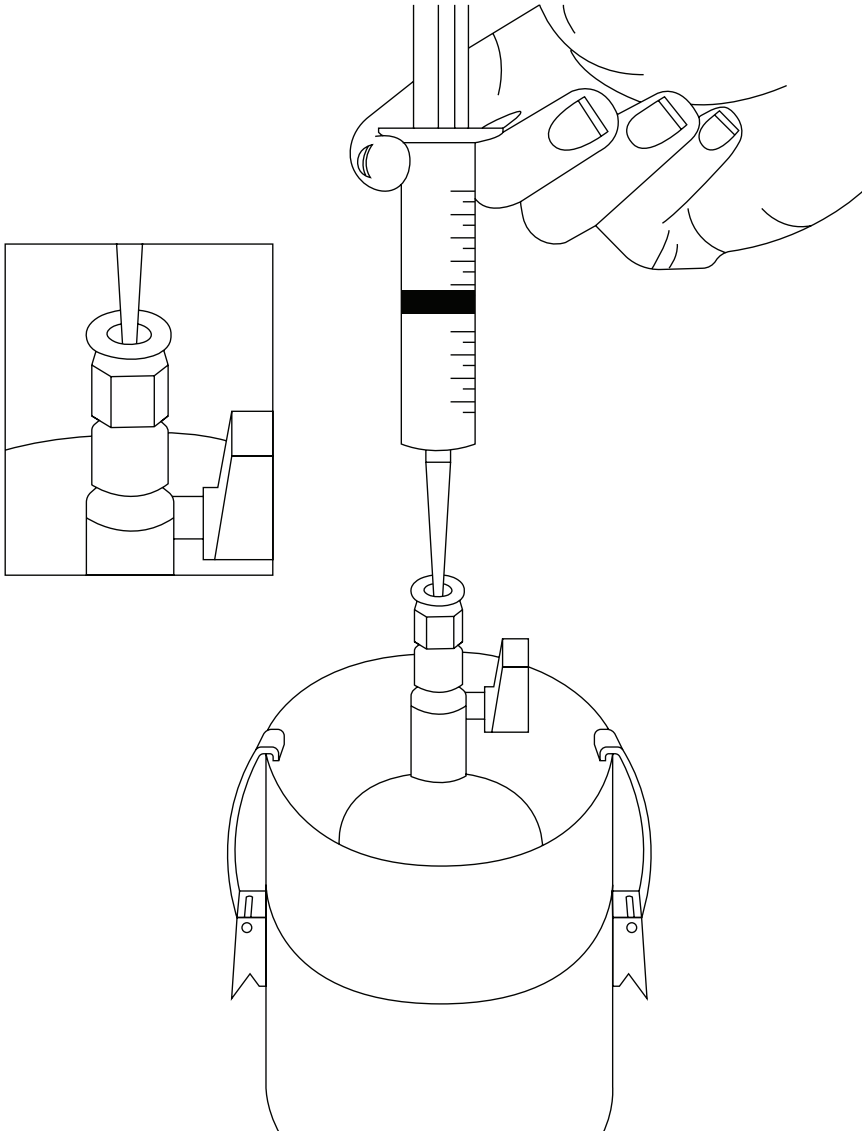

Figure 27 Fill the refilling adapter
23. Fill the refilling adapter bubble free with 23 mL deionized water using the droplet syringe (Figure 27).